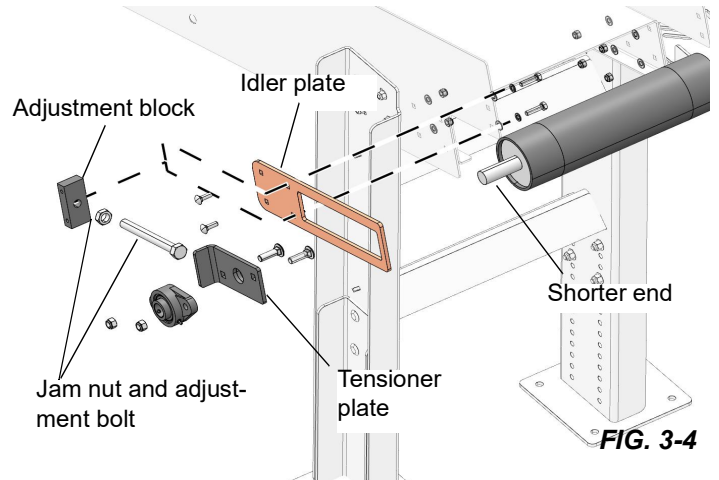

FIG. 3-4
1. Install the drive roller (longer shaft) and all the hardware on the side where the support frame was mounted as shown in FIG. 3-4.
12. Assemble the idle side bearing on the tensioner plate as shown in FIG. 3-4.